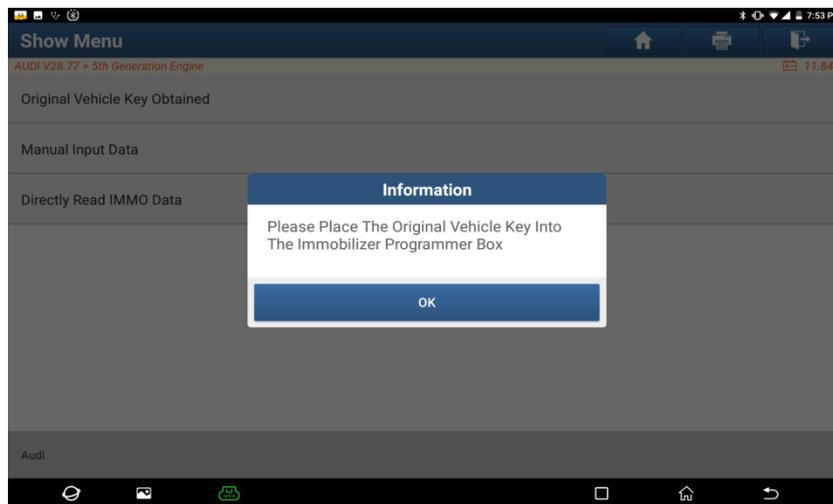

Figure 24
3.2.2.2 After the reading is completed, follow the prompts to place the original vehicle key into X431 Immobilizer programmer box, as shown in Figure 24.